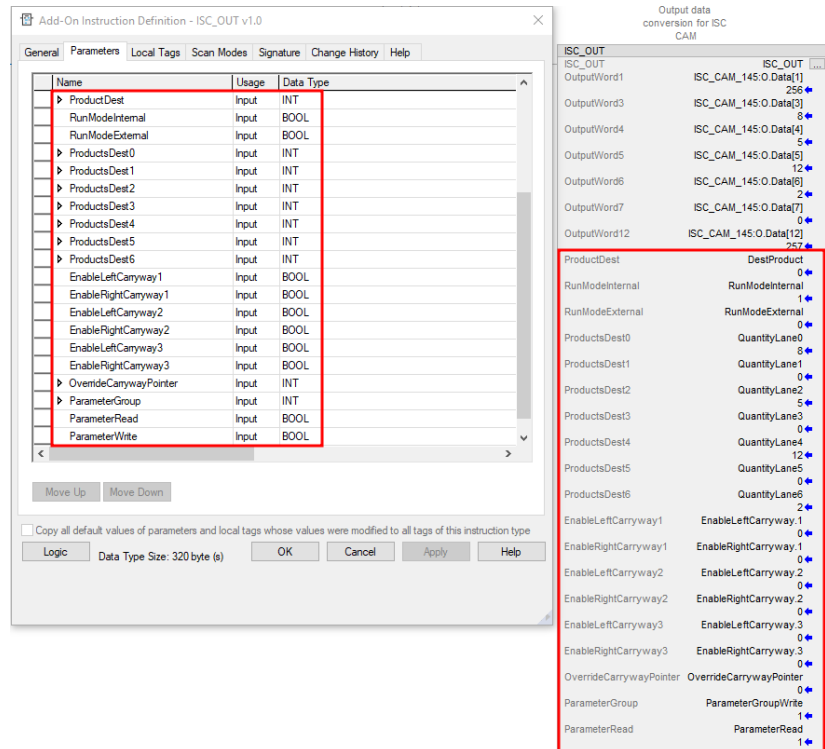

Figure 38: Input Data Types for ISC_OUT AOI
28. Add the ISC CAM outputs words which correspond to the AOI, Figure 38. There is a UDT which includes each of the parameters, items 30-33 have more information.
29. Create unique data type names for all f the parameters in the AOI_ISC_CAM_v2_OUTPUTS, Figure 38.